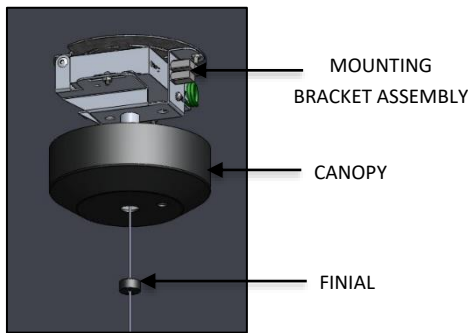

FIG. 12 – CANOPY DIS-ASSEMBLY
- Once the NOVA FIXTURE is secured to the AIRCRAFT CABLE at the GRIPLOCK, unthread the FINIAL from the MOUNTING BRACKET ASSEMBLY and lower the CANOPY as shown below in FIG. 12.